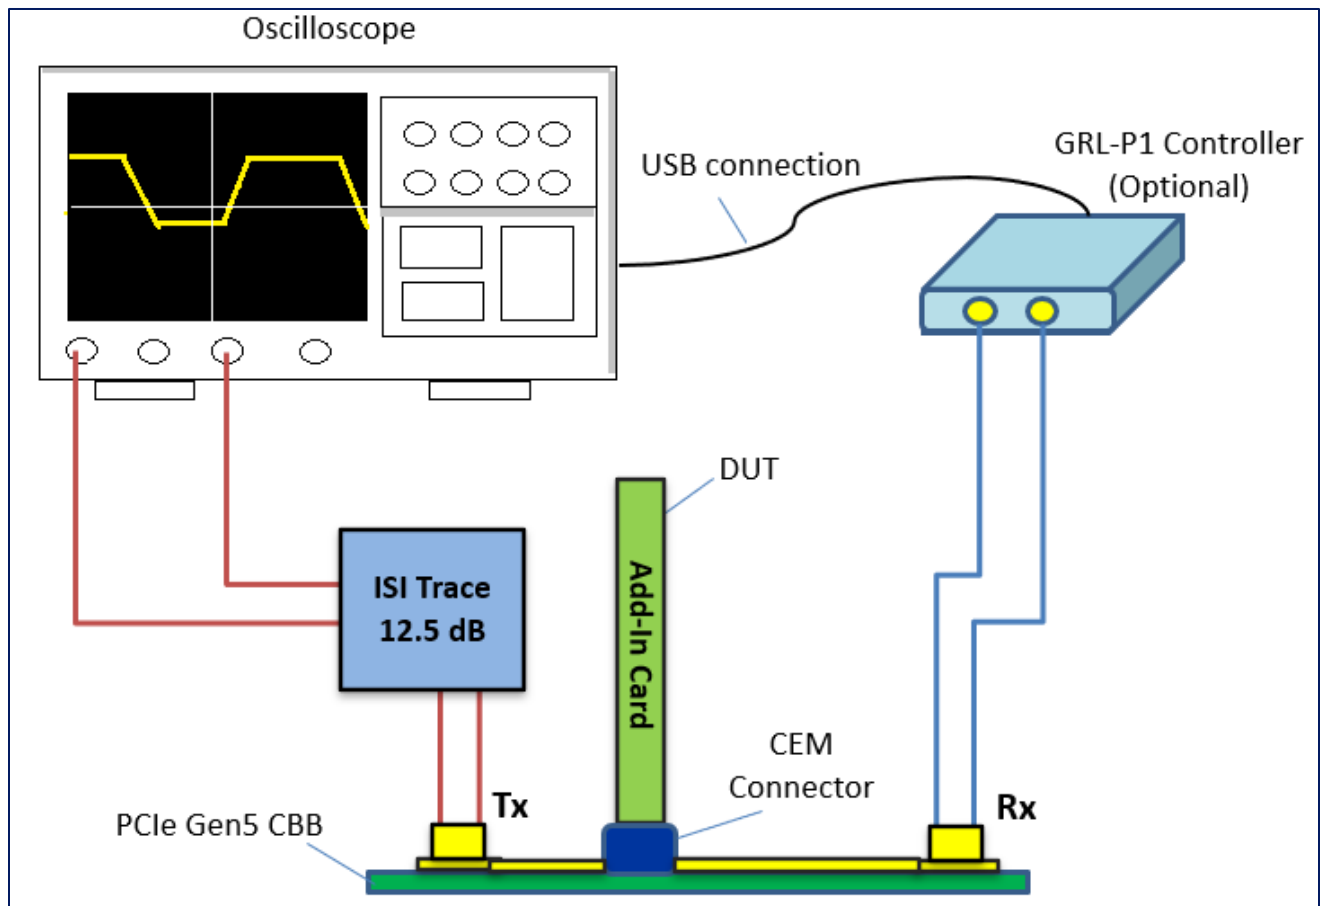

FIGURE 13. CONCEPTUAL PCIe GEN5 ADD-IN CARD TX TEST SETUP DIAGRAM USING GRL-P1 (WITH ISI)
9. If using ISI, connect a 12.5 dB ISI in between the CBB Tx outputs and Scope channels (Figure 13 below).